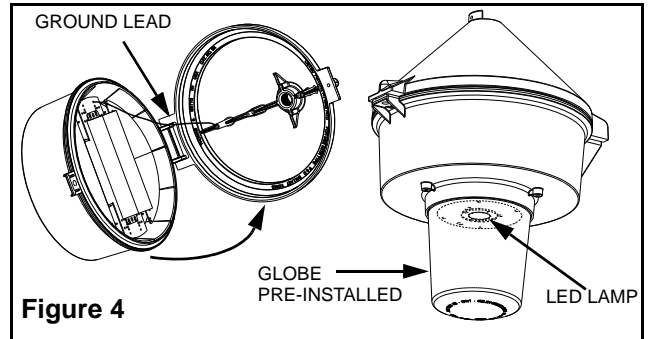

Figure 4
4. Hang the luminaire tank on the luminaire mount hinge (Figure 4).
5. Attach ground bonding lead to supplied grounding screw in luminaire mount (Figure 4). Connect supply wires to luminaire driver leads.